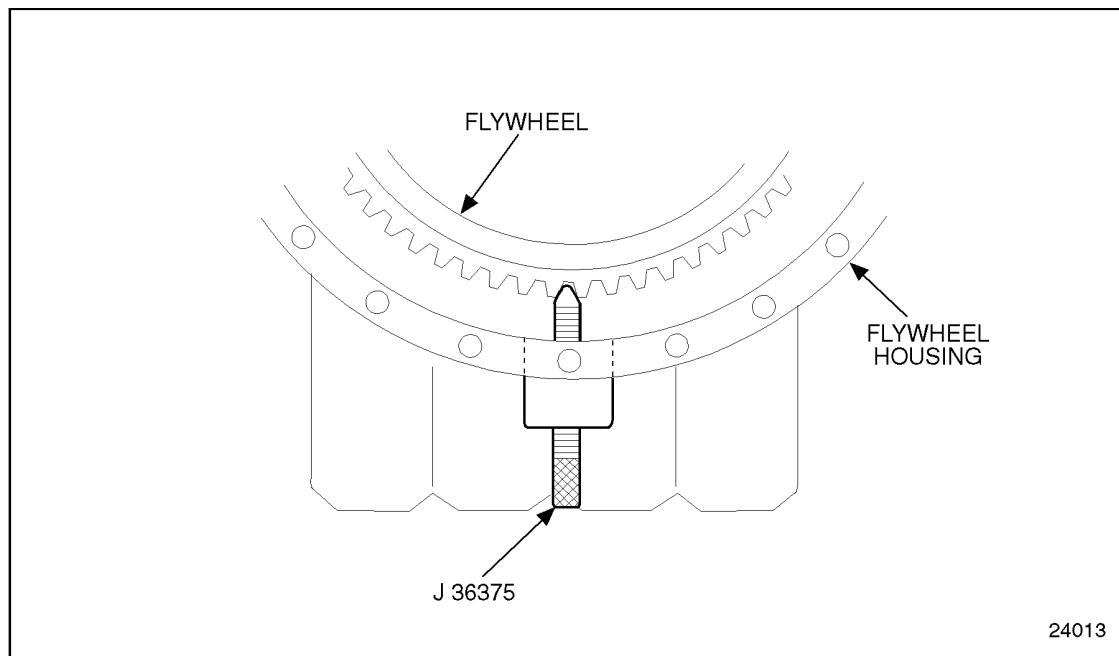

Figure 1-195 Flywheel Lock
2. Remove the inspection plug in the bottom of the flywheel housing and install the flywheel lock, J 36375-A. See Figure 1-195.
1. Install the flywheel lock, J 36375-A, to the inspection plug hole in the bottom of the flywheel housing. See Figure 1-195.
3. Install the flywheel lock, J 36375-A. See Figure 1-195.